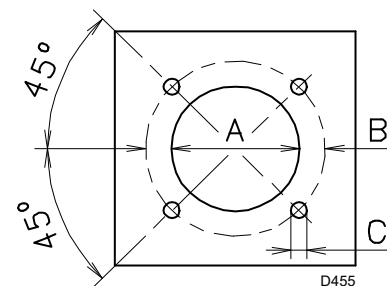

Fig. 11
Pierce the closing plate of the combustion chamber, as in Fig. 11.
- Insert the entire burner on the boiler hole, previously fitted, as in Fig. 11, and fix it with the screws supplied.